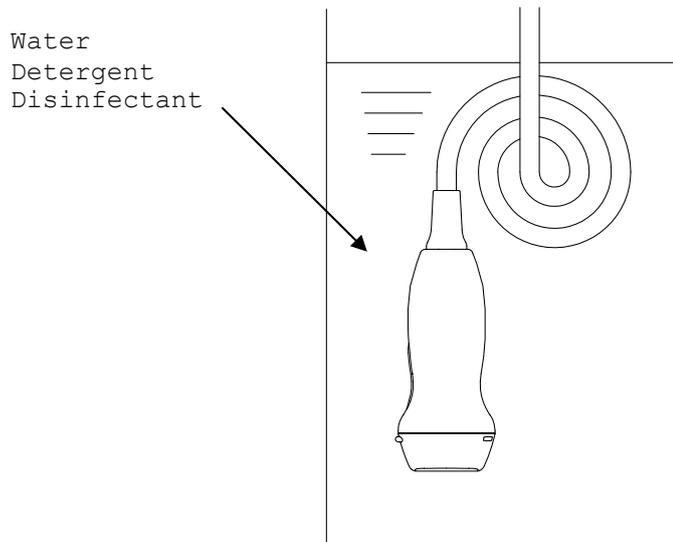

Fig.3 Immersion of the probe
- 2) Immerse the immersible part of the probe without connector into the diluted detergent solution (see Fig 3). Wipe the immersible part of the probe under the surface of the detergent solution with a soft cloth to remove all visible soil. Be sure that all grooves of the probe are implemented during the cleaning process.
(alternatively: immerse the immersible part of the probe in a tray filled with deionized water/tap water (see Fig.3) for 5 min.)
- 3) Immerse the immersible part of the probe into the disinfectant (see Fig. 3). Set a clock to insure the recommended contact time which is 5 minutes.
- 4) Rinse the immersible part of the probe with deionized water for 1 minute. (alternatively: immerse the immersible part of the probe in a tray filled with deionized water (see Fig. 3) for 5 min.)